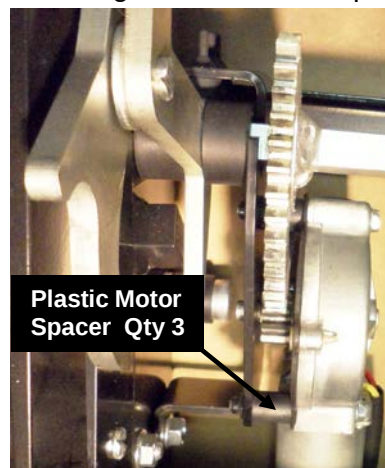
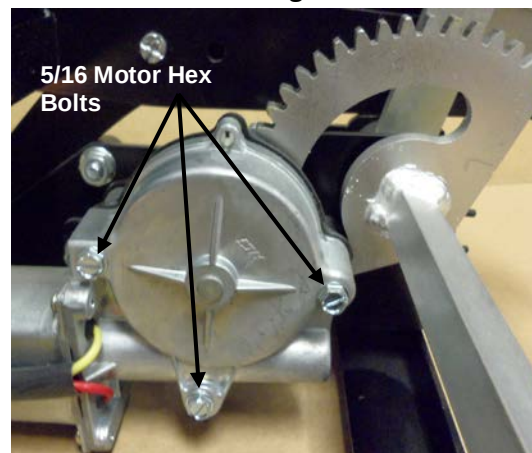

Figure 3
Figure 4
Step 2: Removing the motor. The motor is attached to the step frame using three 5/16 hex bolts. On the bottom side of the motor each bolt goes through a plastic motor spacer. These spacers are not attached to the motor and will fall out when the bolt and/or the motor is removed. **Caution: Hold onto each of the three plastic motor spacers when the corresponding bolt is removed. See Figure 3.** Disconnect the motor harness from the motor plug. It may be necessary to use a 5/16" socket with ratchet to break mounting bolts loose, completely remove the bolts. **See Figure 4.**